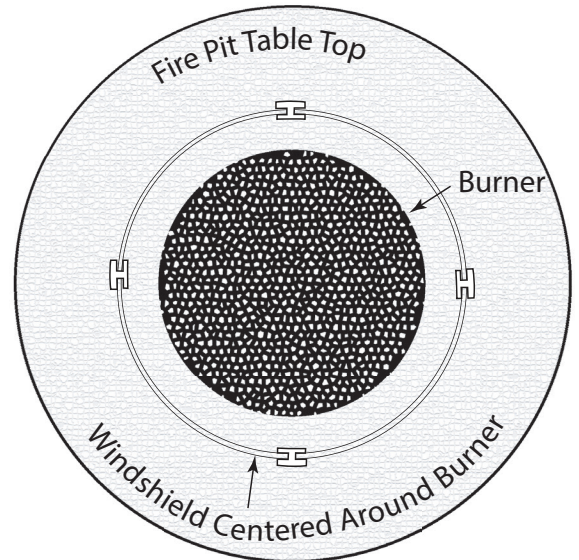

Fig. 14 Windshield installed.
STEP 2: After all eight (8) brackets are secured to the windshield carefully turnover the entire assembly right-side up (black feet at the bottom) and place the windshield over-top of your fire pit centering around the burner it into place (See Fig 14). Installation is now complete.